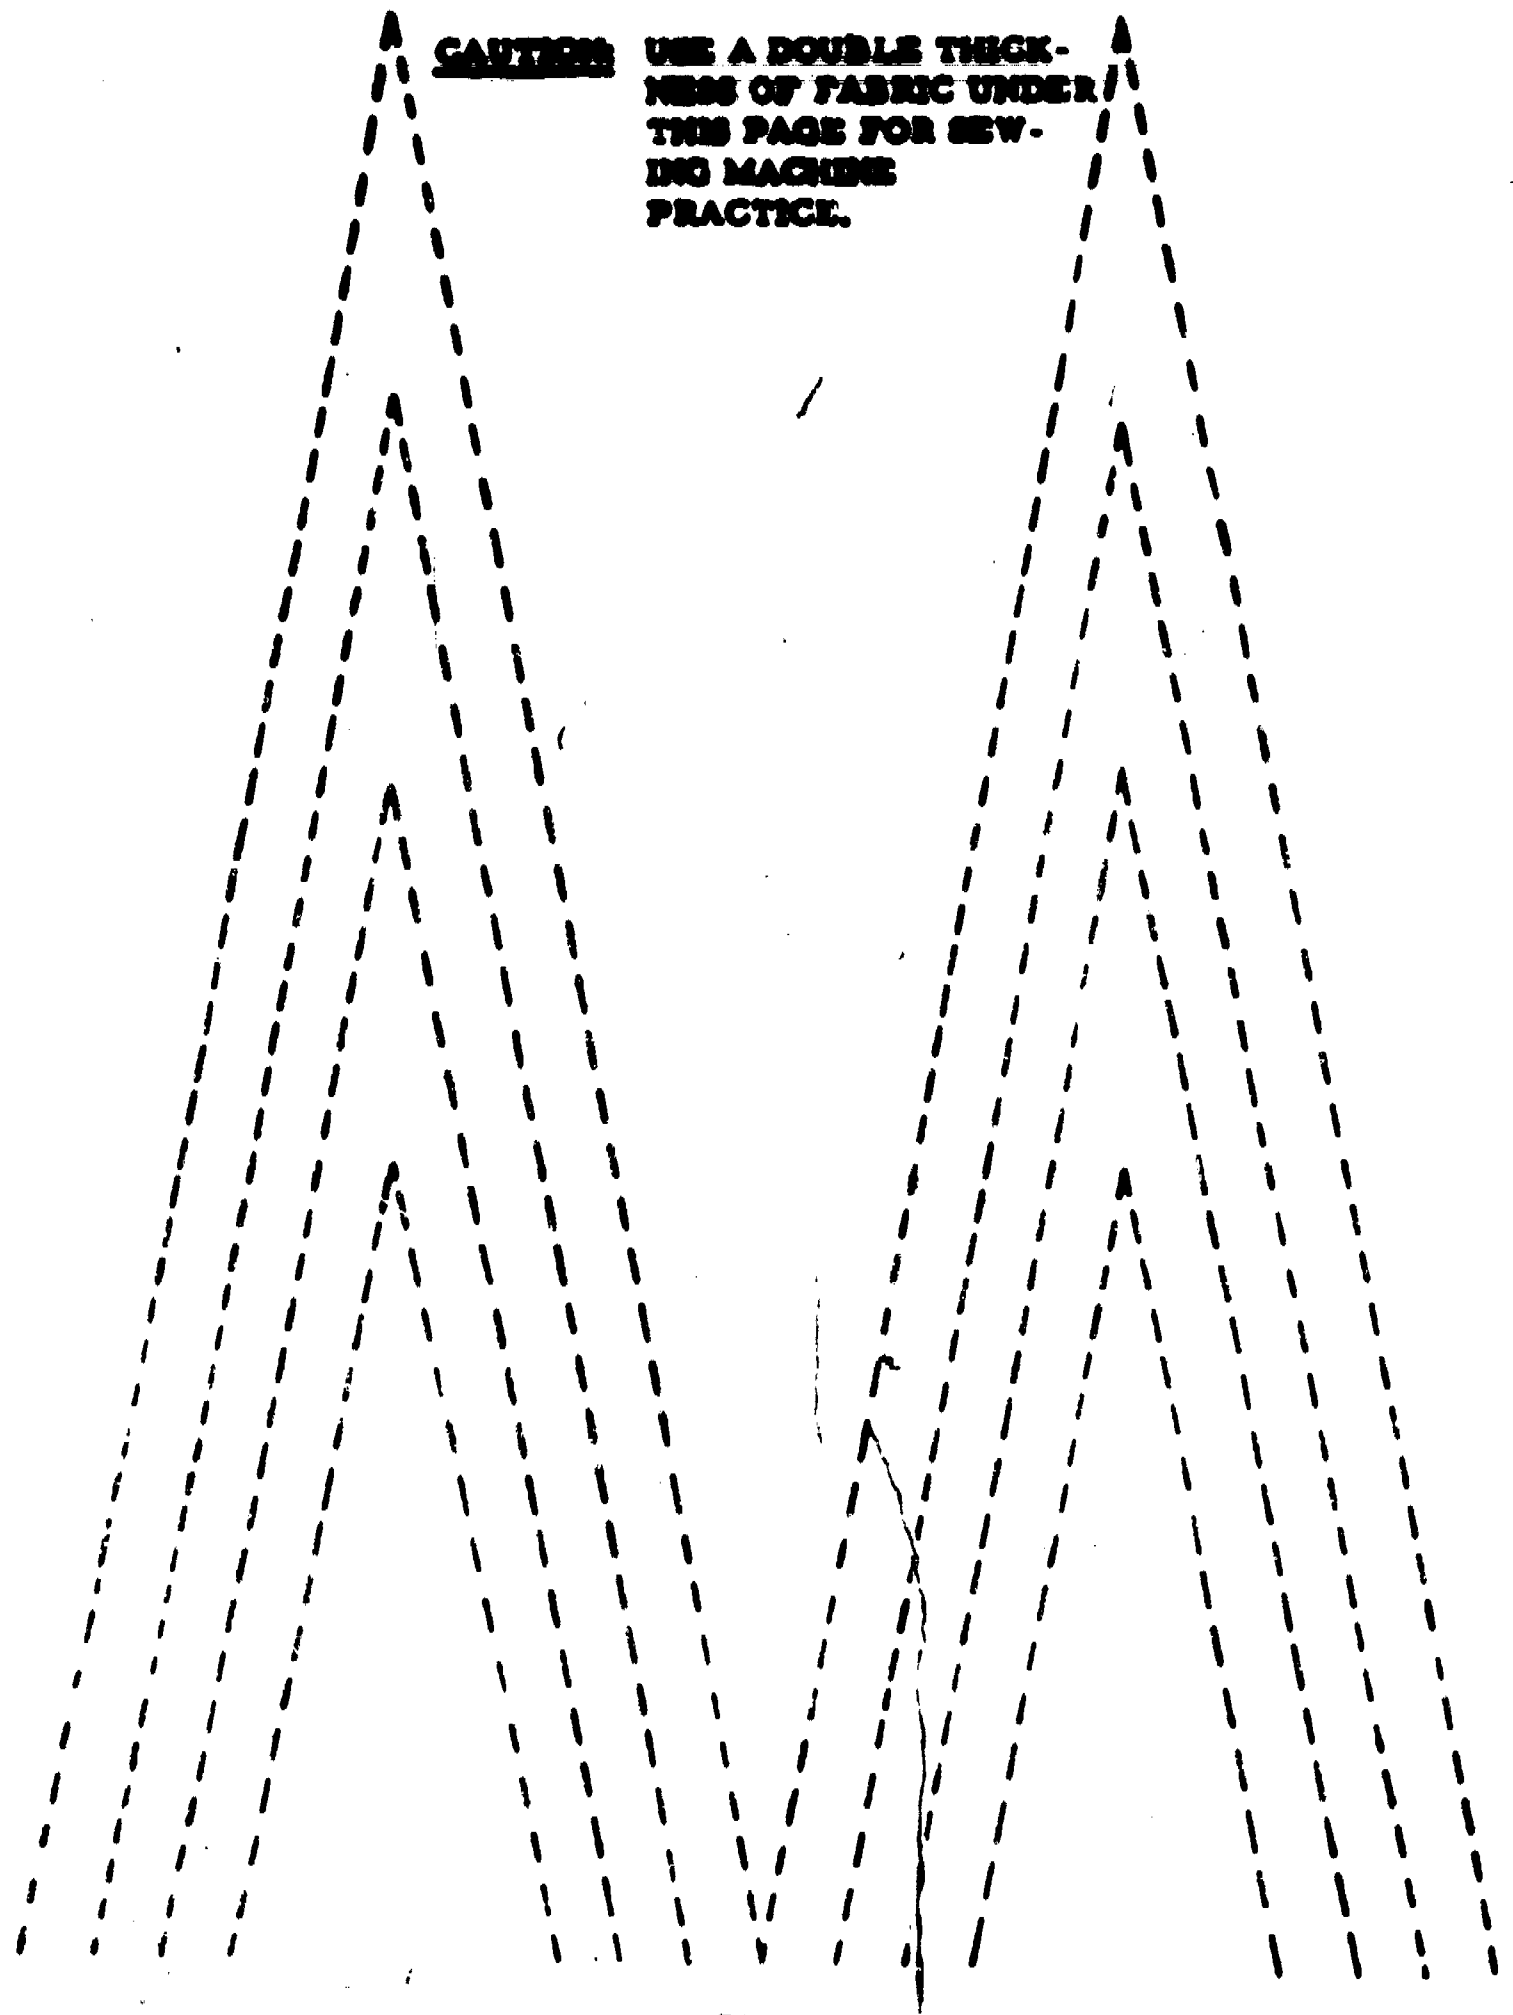
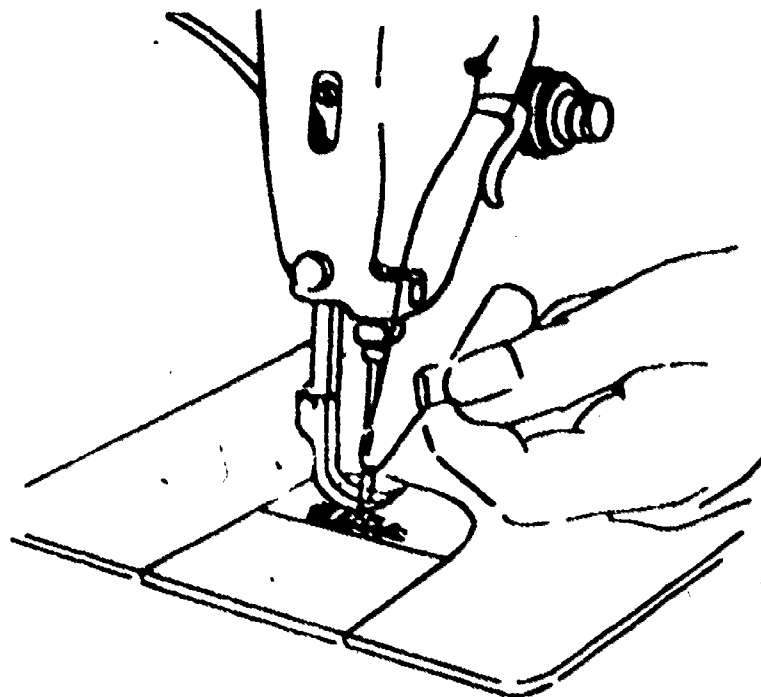

Figure 16.
Figure 22. Needle Thread Being Used to Draw Bobbin Thread up Through Hole in Throat Plate.
(1) After the needle has been threaded and the bobbin case replaced, the operator must use the needle thread to catch and draw the bobbin thread up through the hole in the throat plate, as illustrated in figure 22.
(2) By operating the hand lifting lever, lock the presser foot in its raised position.
(3) With the left hand, hold the end of the needle thread a little slack and toward the upright of the arm.
(4) With the right hand, turn the balance wheel down toward you until the needle moves from its highest position, down, and back up to its highest position. If the needle thread is held with a light tension during this operation, and if the needle is correctly timed, it will catch the bobbin thread.
(5) Draw up the needle thread, and the bobbin thread will come up with it through the hole in the thread plate, as in figure 16.